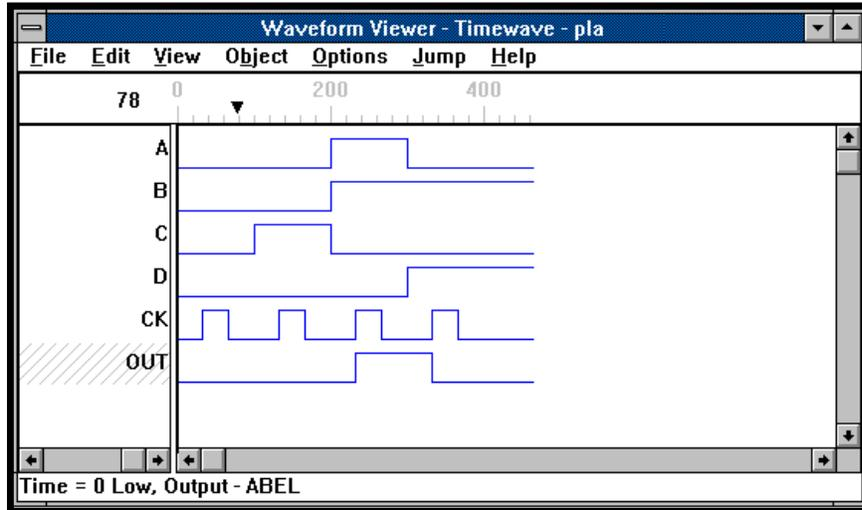

Figure 1-16. A Completed Waveform
35. One at a time, highlight each signal name that you want to see and press **Show**. The waves you selected will appear in the Waveform Viewer window in the order you chose them (Figure 1-16). Select **File** ⇒ **Exit** to close the Waveform Viewer. A dialog box will appear, asking you to confirm changes to `PLA.wav`.